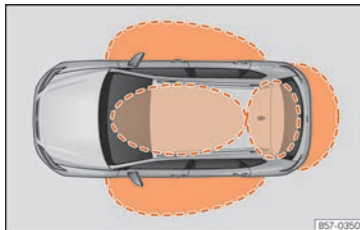
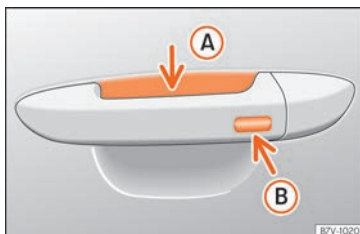

Fig. 78 Keyless Access: proximity zones.
Fig. 79 Door handle: sensor surfaces
»» **Fig. 79**
Keyless Access is a key-free locking and ignition system to unlock and lock the vehicle without actively using its key. To do this, all that is required is to have a valid vehicle key in the detection area where you are attempting to access the vehicle »» Fig. 78 and to touch one of the sensor surfaces on the door handles »» Fig. 79 or operate the *softtouch*/handle on the rear lid »» page 100 »» ❶.
If a valid key is in the proximity of the car, »» Fig. 78 the Keyless Access locking and starting system gives the key entry as soon as
- Grip one of the front door handles. When you do this, you touch the sensor surface »» Fig. 79 (A) (arrow) of the handle and the vehicle unlocks.
- Touch (once) the locking sensor surface »» Fig. 79 (B) (arrow) on one of the front door handles. The door that is used must be closed.
• Touch (once) the sensor surface »» Fig. 79 **B** (arrow) on one of the front door handles. The vehicle locks with the “Safe” security system »» page 95. The door that is used must be closed.
• Touch (twice) the sensor surface »» Fig. 79 **B** (arrow) of one of the front door handles to lock the vehicle without activating the “Safelock” security system »» page 95.
When the vehicle is locked, the rear lid automatically unlocks on opening if there is a valid vehicle key in the proximity »» Fig. 78.
- Push the central locking button  on the remote control and touch the locking sensor surface of the driver door handle »» Fig. 79 **B** within the following 5 seconds. Do not grasp the door handle; otherwise the
To close all the electric windows and the sunroof using the **comfort function**, keep a finger for a few seconds on the locking sensor surface »» Fig. 79 **B** (arrow) of the door handle until the windows and roof have closed.
The sensor surfaces on the door handles could engage if hit with a water jet or high pressure steam if there is a valid vehicle key in the proximity. If at least one of the electric windows is open and the sensor surface »» Fig. 79 **B** (arrow) on one of the